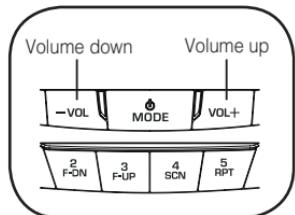

Figure 4
3. The volume level of telephone conversation can be adjusted by pressing the volume up [**VOL +**] or volume down [**VOL -**] button (Figure 4).
3. Volume of BT Music can be adjusted by volume buttons (Figure 4).